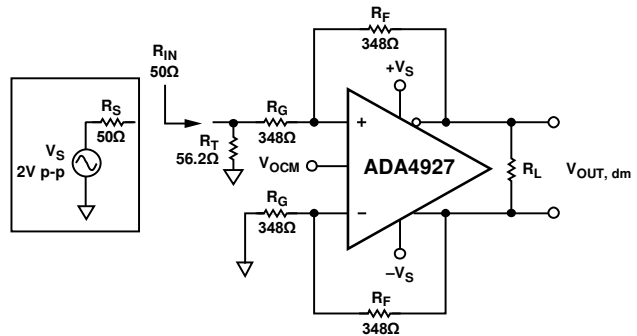

Figure 51. Adding Termination Resistor R_T
3. It can be seen from Figure 51 that the effective R_G in the upper feedback loop is now greater than the R_G in the lower loop due to the addition of the termination resistors. To compensate for the imbalance of the gain resistors, a correction resistor (R_{TS}) is added in series with R_G in the lower loop. R_{TS} is equal to the Thevenin equivalent of the source resistance R_S and the termination resistance R_T and is equal to $R_S || R_T$.